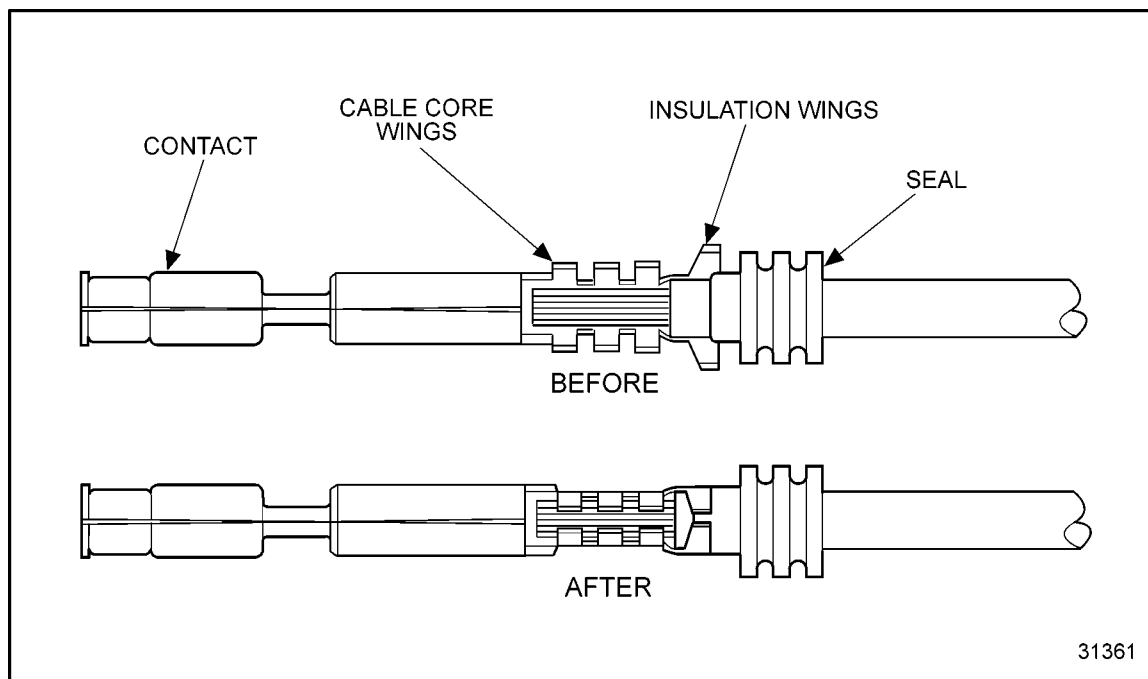
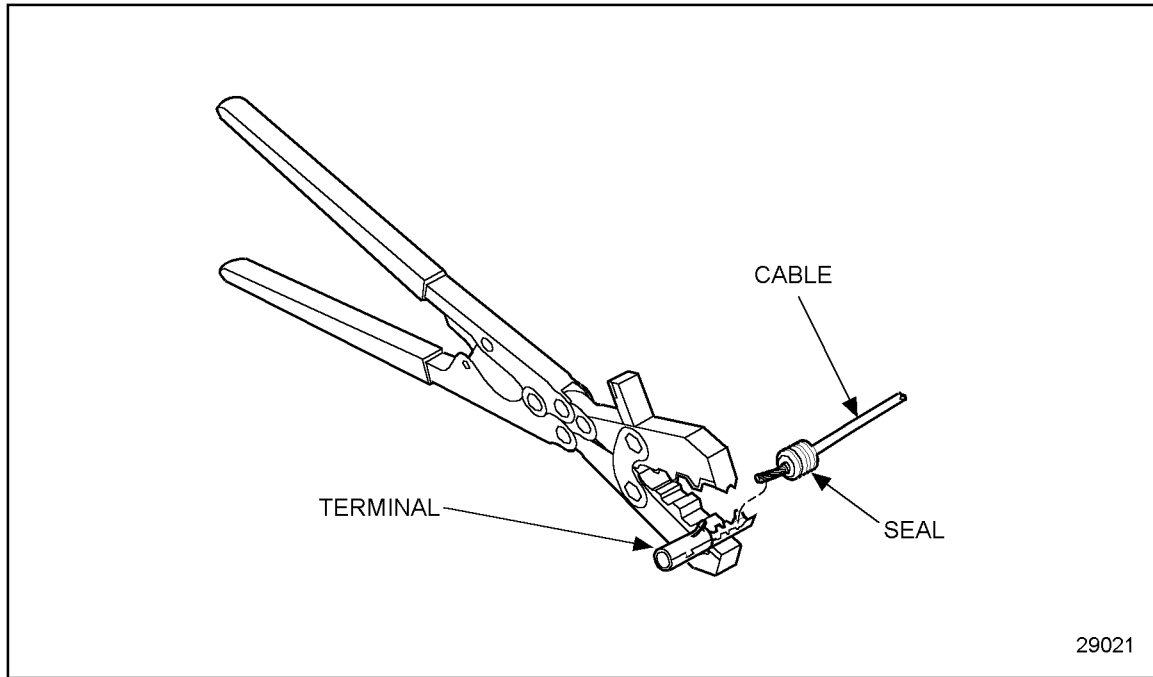

Figure 8-11 **Terminal Installation with Seal**
Figure 8-12 Terminal Position with Seal
2. Remove the insulation from the end of the cable with J 35615, or equivalent, exposing 5.0 ± 0.5 mm (0.20 ± 0.02 in.) conductor (wire), a sufficient amount of wire to be crimped by the terminal core wings. See Figure 8-11.
3. Insert the terminal into the locating hole of the crimping tool using the proper hole according to the gage and function of the cable to be used. See Figure 8-12.
4. Insert the cable in the terminal so the stripped portion is positioned in the cable core wings and the insulated portion of the cable is in the insulation wings. See Figure 8-12. Position the seal on the cable so the insulation wings grip the seal. See Figure 8-11.